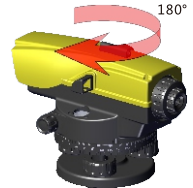

Figure 10
① Center the bubble of the Circular Level precisely by using the Leveling Foot Screws.
② Turn the telescope around 180° (Figure 10). The bubble needs adjusting if it is uncentered.
③ The bubble needs adjustment if it is uncentered.
④ Adjust Leveling Footscrews to move the bubble to the